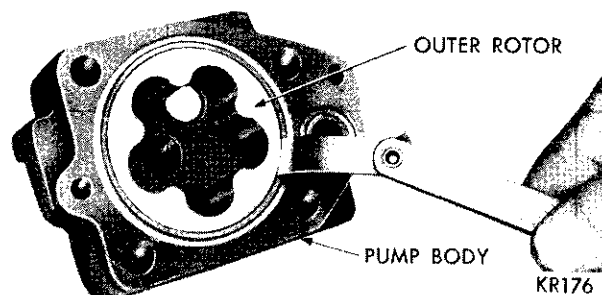

Fig. 55—Measuring Outer Rotor Clearance
(5) Install outer rotor into pump body, pressing to one side with fingers and measure clearance between outer rotor and pump body (Fig. 55). If measurement